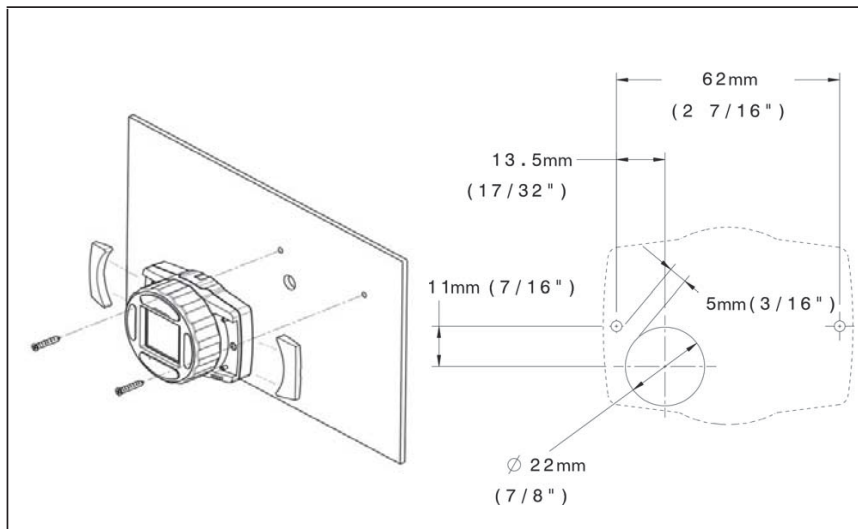

Fig. 47 Control Element (SmarTemp) 2000 ST only and drilling diagram
- Use the drilling dimensions (fig. 47) to lightly mark the two mounting holes.